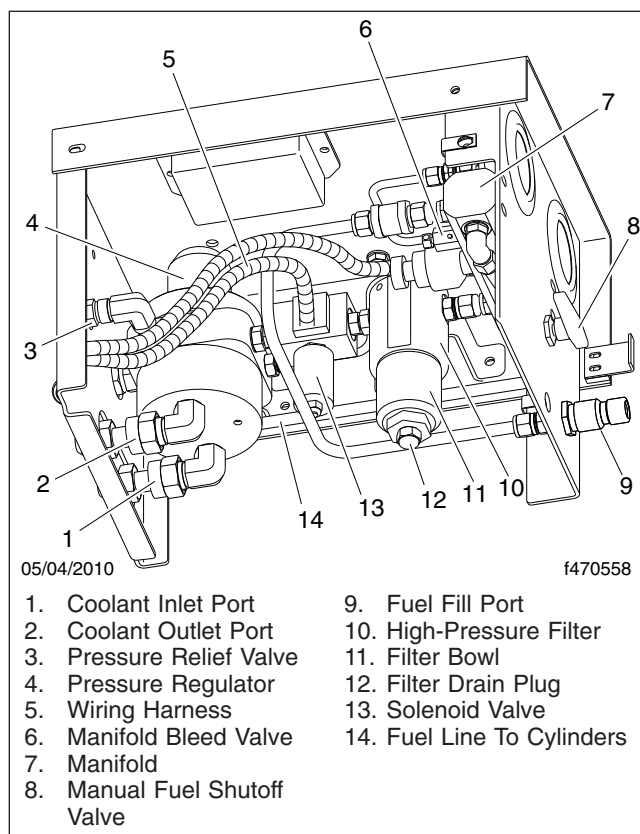

Fig. 11.18, CNG Fuel Panel Components
- 2.4 Slowly open the bleed valve on the manifold to relieve remaining fuel pressure within the system. See Fig. 11.18.